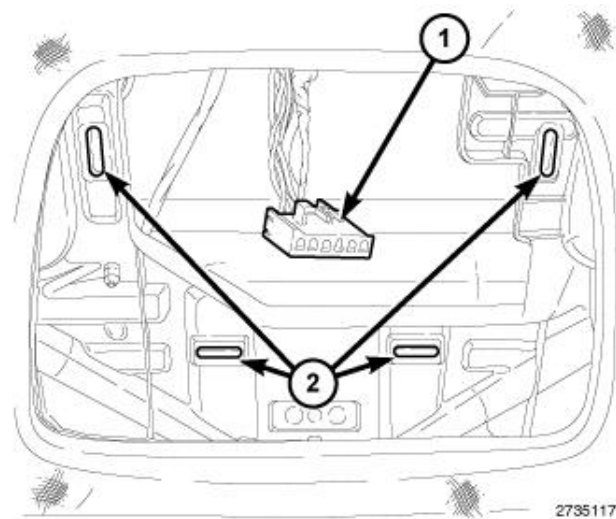

Figure 3 – Overhead Console Connector
4. Lower the overhead console far enough to access the wire harness connectors (1) (Figure 3).